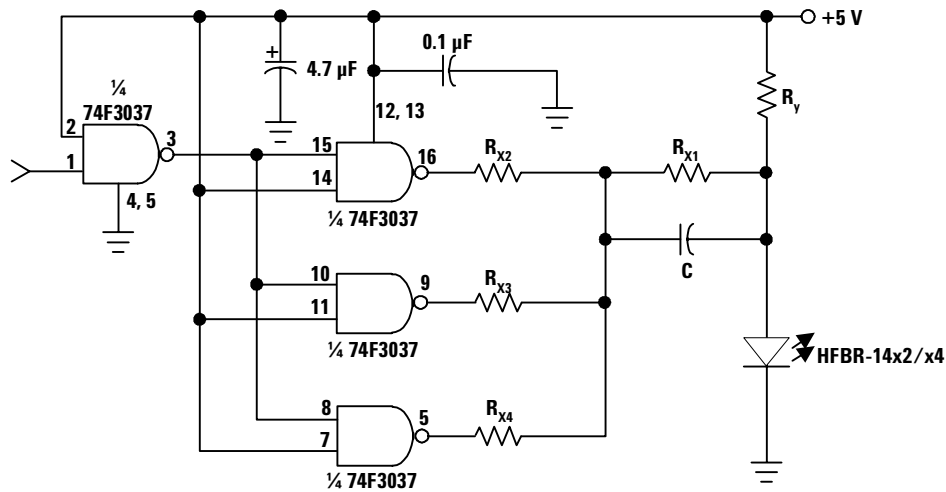

Figure 11. Recommended Drive Circuit.
- Pre-bias is recommended if signal rate $>10\text{ MBd}$, see recommended drive circuit in Figure 11.
Figure 11 uses frequency compensation to reduce the typical rise/fall times of the LED and a small pre-bias voltage to minimize propagation delay differences that cause pulse-width distortion. The circuit will typically produce rise/fall times of 3 ns, and a total jitter including pulse-width distortion of less than 1 ns. This circuit is recommended for applications requiring low edge jitter or high-